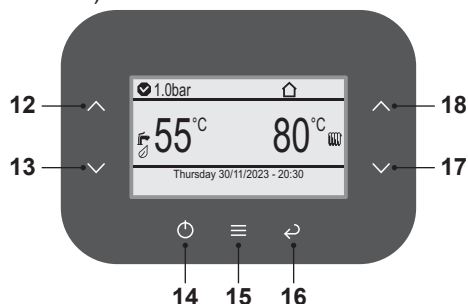

Fig. 1.5
- Press key 15 (Fig. 1.5) to access the main menu (Fig. 1.6).
- Press key 12 or 13 (Fig. 1.5) to select the desired menu (Fig. 1.7).
- Press key 15 (Fig. 1.5) to access the selected menu (Fig. 1.8).
- Press key 15 (Fig. 1.5) again to highlight the value to be changed.
- Press key 17 or 18 (Fig. 1.5) to select the desired language from those available (Fig. 1.8).
- Press key 15 (Fig. 1.5) to confirm the change or key 16 to exit without changing the value (return to previous level).
- Press key 16 (Fig. 1.5) to return to the previous level (Fig. 1.7).
- Press key 12 or 13 (Fig. 1.5) to select the desired menu (Fig. 1.9).
- Press key 15 (Fig. 1.5) to access the selected menu (Fig. 1.10).
- Press key 15 (Fig. 1.5) to access the selected menu (Fig. 1.11).
- Press key 12 or 13 (Fig. 1.5) to select the desired menu (Fig. 1.11).
- Press key 17 or 18 (Fig. 1.5) to enter the desired value (Fig. 1.11).
- Press key 16 (Fig. 1.5) repeatedly to return to the level in Fig. 1.8.
- Press key 12 or 13 (Fig. 1.5) to select the desired menu (Fig. 1.12).
- Press key 15 (Fig. 1.5) to access the selected menu (Fig. 1.13).
- Press key 17 or 18 (Fig. 1.5) to enter the desired value (Fig. 1.13).
Key 14 (Fig. 1.5) remains lit to signal the appliance is powered.